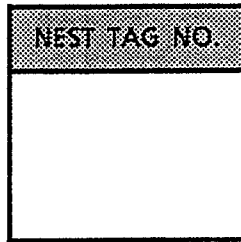

Fig. 2.5 Nest Tag Number Label
- ① Nest tag number label (See Fig. 2.5) : 1